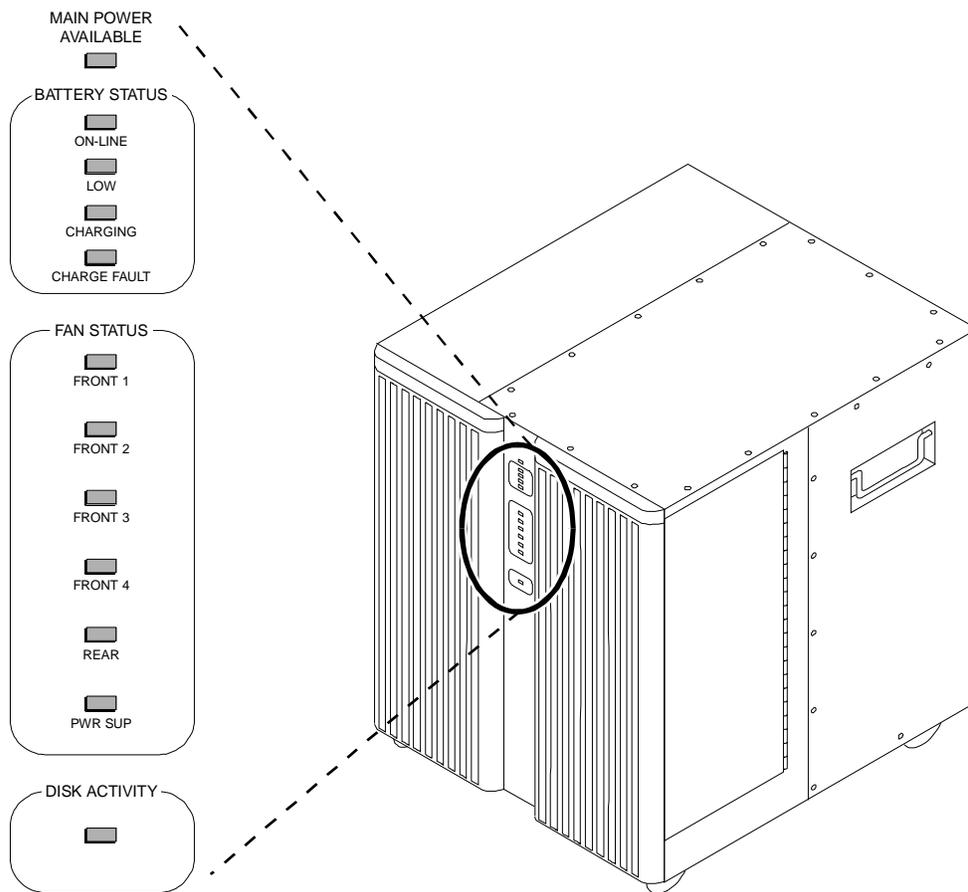

Figure 7-6. MAP/100 Monitoring Panel
The MAP/100 monitoring panel includes indicator lamps which are lit when the associated fan is in operation (Figure 7-6). The indicator lamp for the defective fan will not be lit.
11. Verify that the fan is working by observing the MAP/100 monitoring panel (Figure 7-6).
8. Verify that the fan is working by observing the MAP/100 monitoring panel (Figure 7-6).